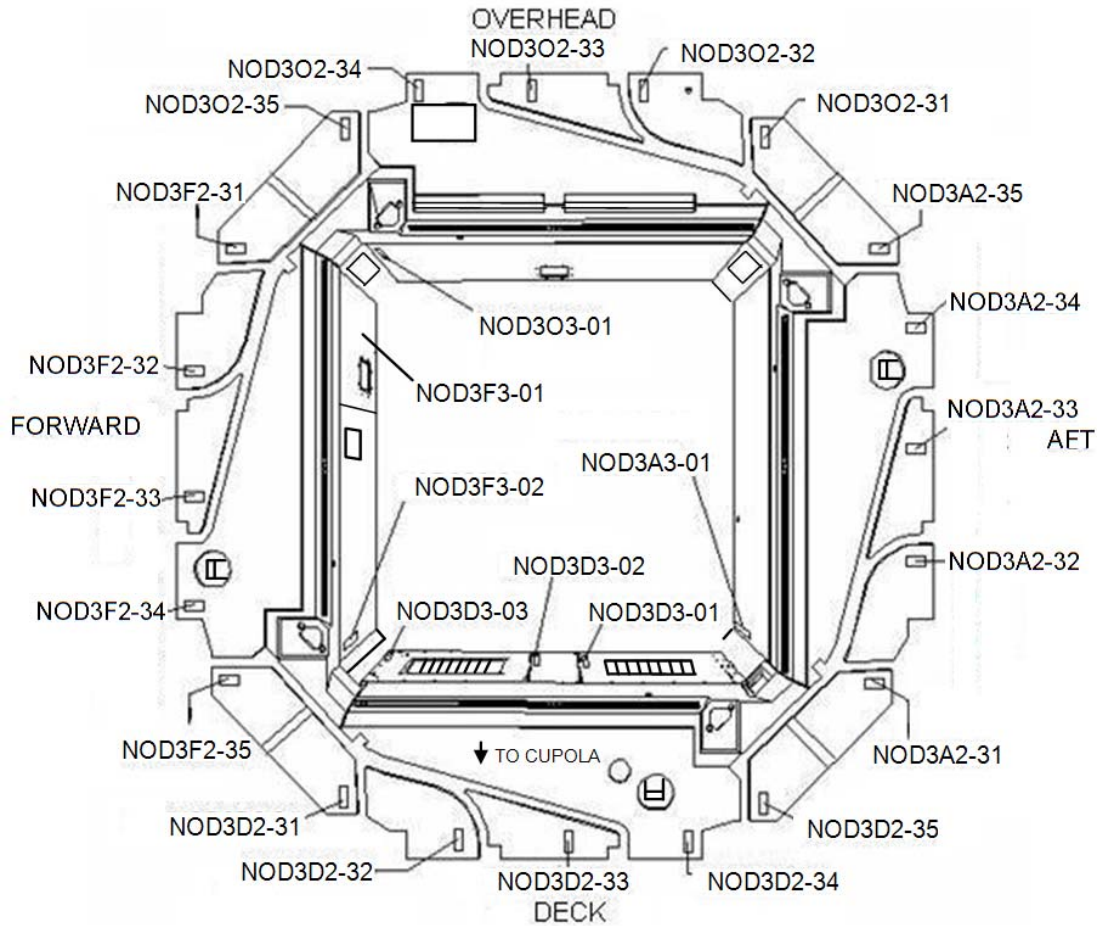

Figure 6.- Node 3 Midbay (Looking Starboard).
5.1 Remove non-captive Launch Restraint Bolts (one hundred ninety-seven) from Node 3 Midbay Closeout Panels (Driver Drill; Hex Shank, 5/32" Hex Head, 1/4" Drive). Stow bolts and washers in Ziplock Bag. Refer to Table 4 and Figure 6.
5.3 Remove non-captive Launch Restraint Bolts (thirty-one) from Node 3 Midbay Closeout Panels NOD3A3-01 (Driver Drill; Hex Shank, 3/16" Hex Head, 1/4" Drive). Stow bolts and washers in Ziplock Bag. Refer to Table 5 and Figure 6.